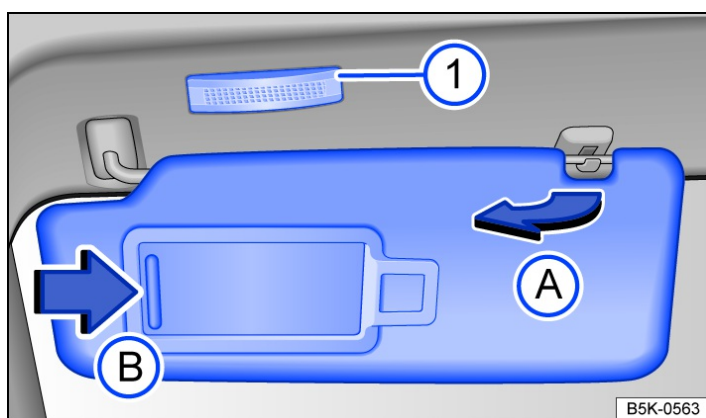

Fig. 1 In the front headliner: sun visor.
- Pulled out of the bracket and swung over towards the door → Fig. 1 **A**.